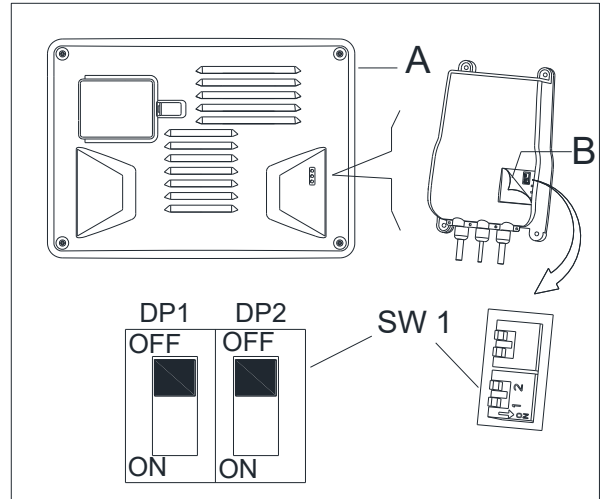

Figure 6
1. Turn off the machine and disassemble the control cover (A as Figure 6) from the machine. Then pry open the label on the charger cover (B as Figure 6). you will find the 2 sets of dipswitches (SW1 and SW2) in the charger.
If there is any emergency during machine operating, press the emergency switch (A, Figure 6), then all functions of machine will stop, no display on control panel (B, Figure 6)